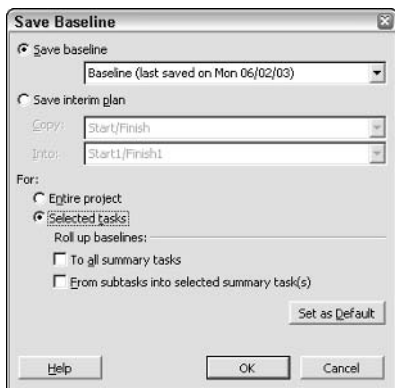

Figure 11-5: Make modifications to tasks, and save them in an already established baseline.
4. Choose the Selected tasks option button, as shown in Figure 11-5.